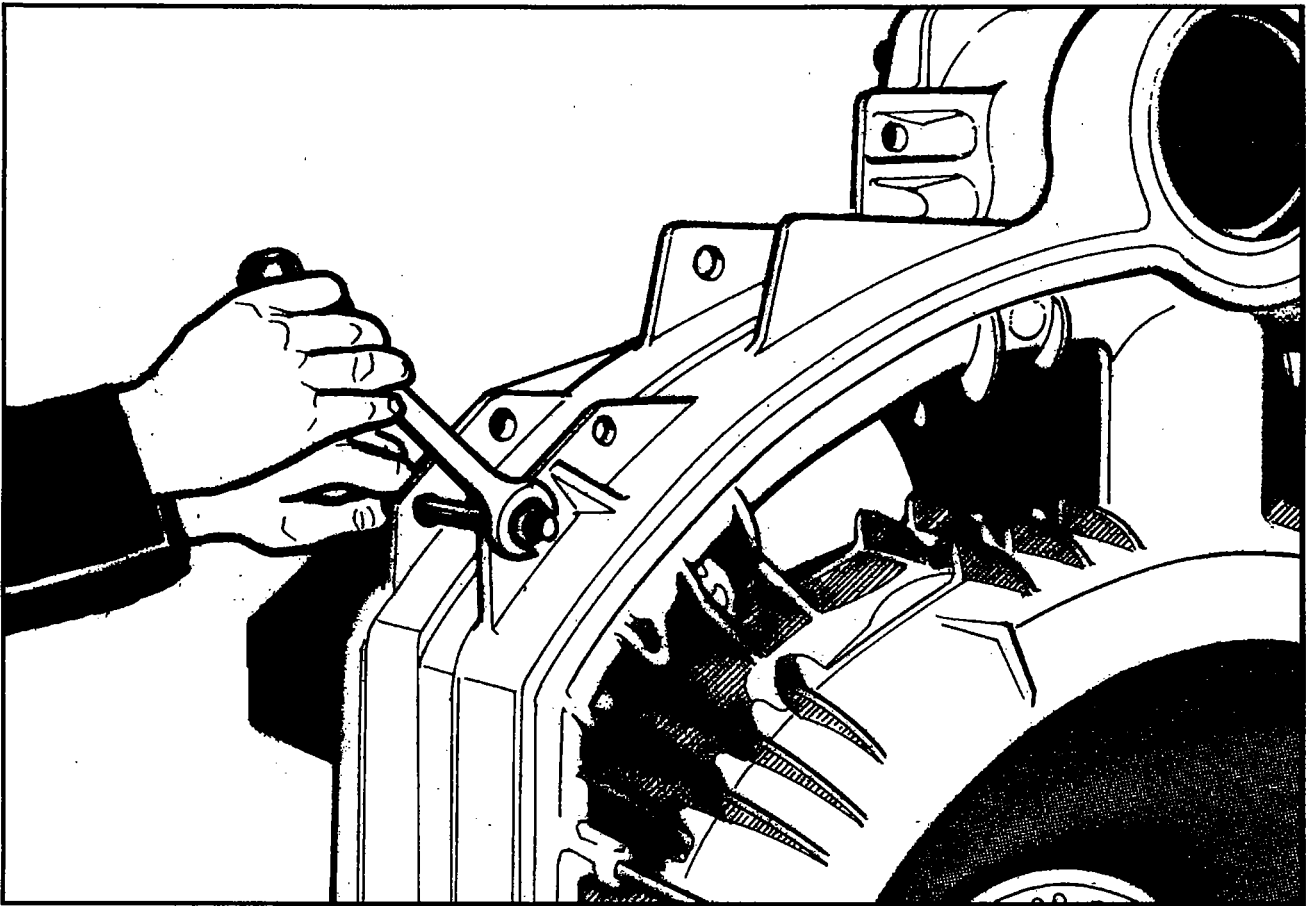

Figure 10.6 – Fitting Lacing Bolts
g. Fit the four lacing bolts (6a) provided through one of the two holes in each of the corresponding pairs of bolt flanges on the sections (Fig 10.6). Tighten the bolts **EVENLY** to a torque of 25Nm (18 lbf.ft.)